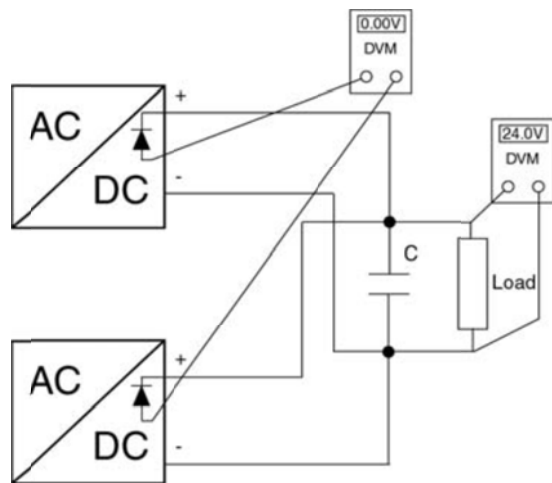

Figure 7. Adjusting output voltage measure at +Test or pin 8 on the H15 connector.
2. Measure the voltage at the load. Connect voltmeters as showed in Figure 7. If you have only access to one voltmeter you must move it around to make the adjustments.
- 3.1. Increase the output voltage by turning the potentiometer marked "V.ADJ" clockwise on the unit with the lowest output voltage until you reach the desired voltage at the load or until the output voltage does not increase anymore (as the unit is in current limit). To find the unit with the lowest output voltage you can measure the voltage difference before the series diode, as in Figure 7.
- 4.1. Decrease the output voltage by turning the potentiometer marked "V.ADJ" counter clockwise on the unit with the highest output voltage until you reach the desired voltage at the load or until the output voltage does not decrease anymore (as the other units supply all current). To find the unit with the highest output voltage, measure the voltage difference before the series diode, as in Figure 7.